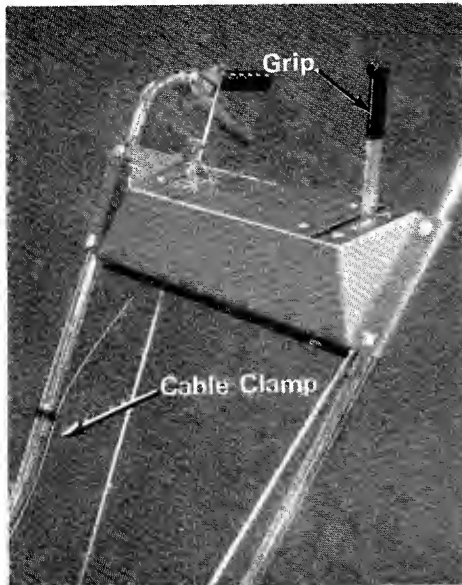

Figure 6
- 7 Place the grip on the blade engagement lever. (See figure 6.)